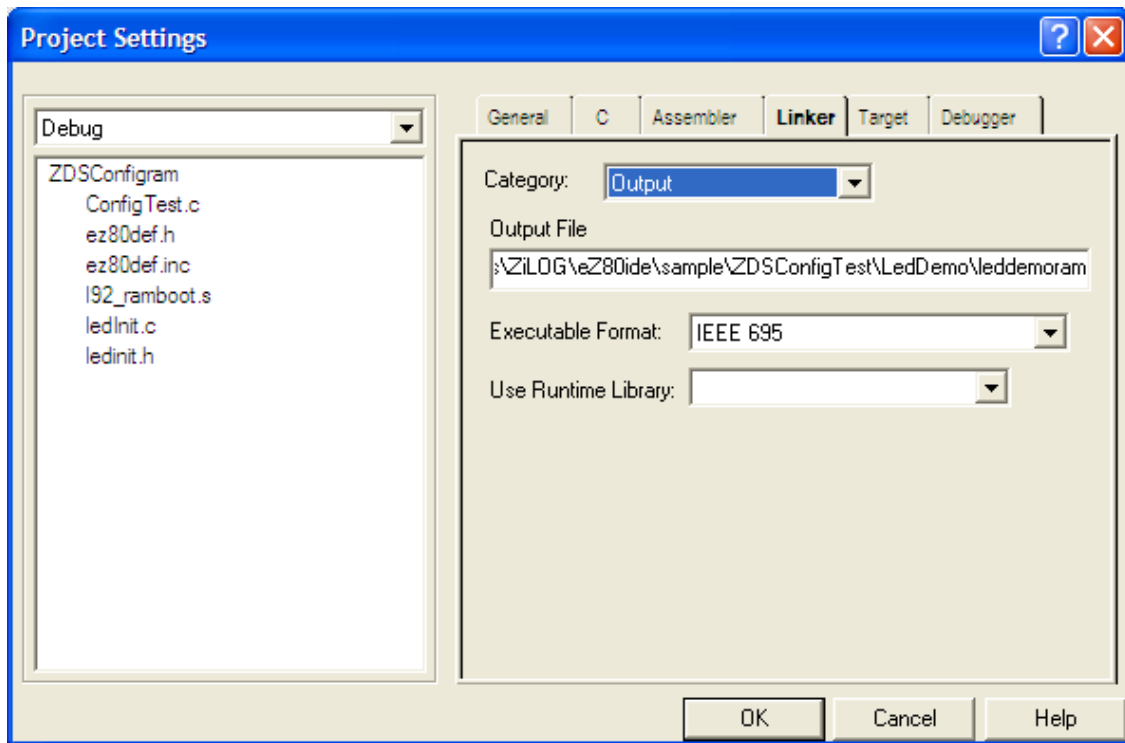

Figure 4. The Project Settings Dialog Box—Linker Tab, Output
- d. **Output Category**—please see Figure 4.